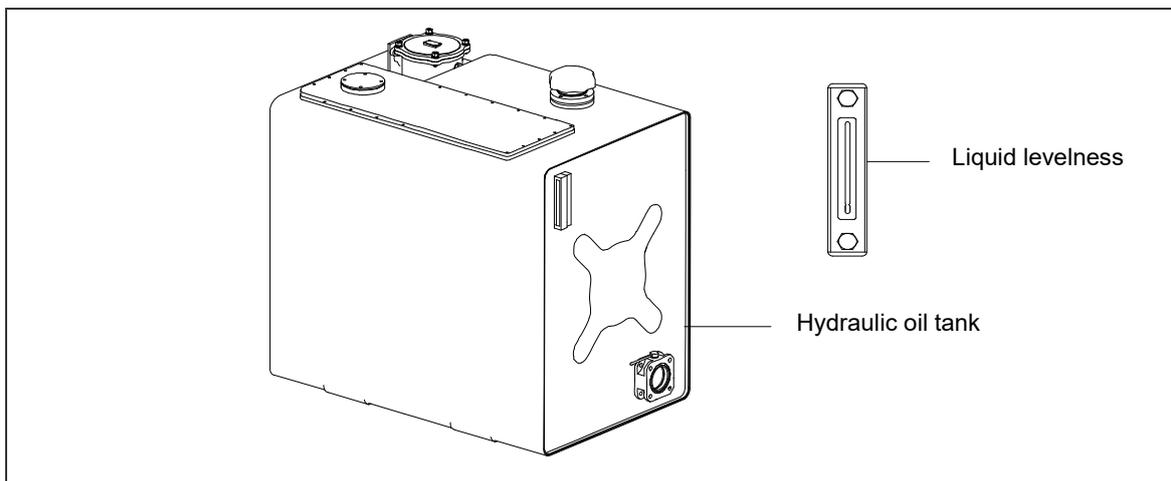

Figure 4-47 Hydraulic oil tank
- 2) Turn the handle.Refer to Figure 4-47.